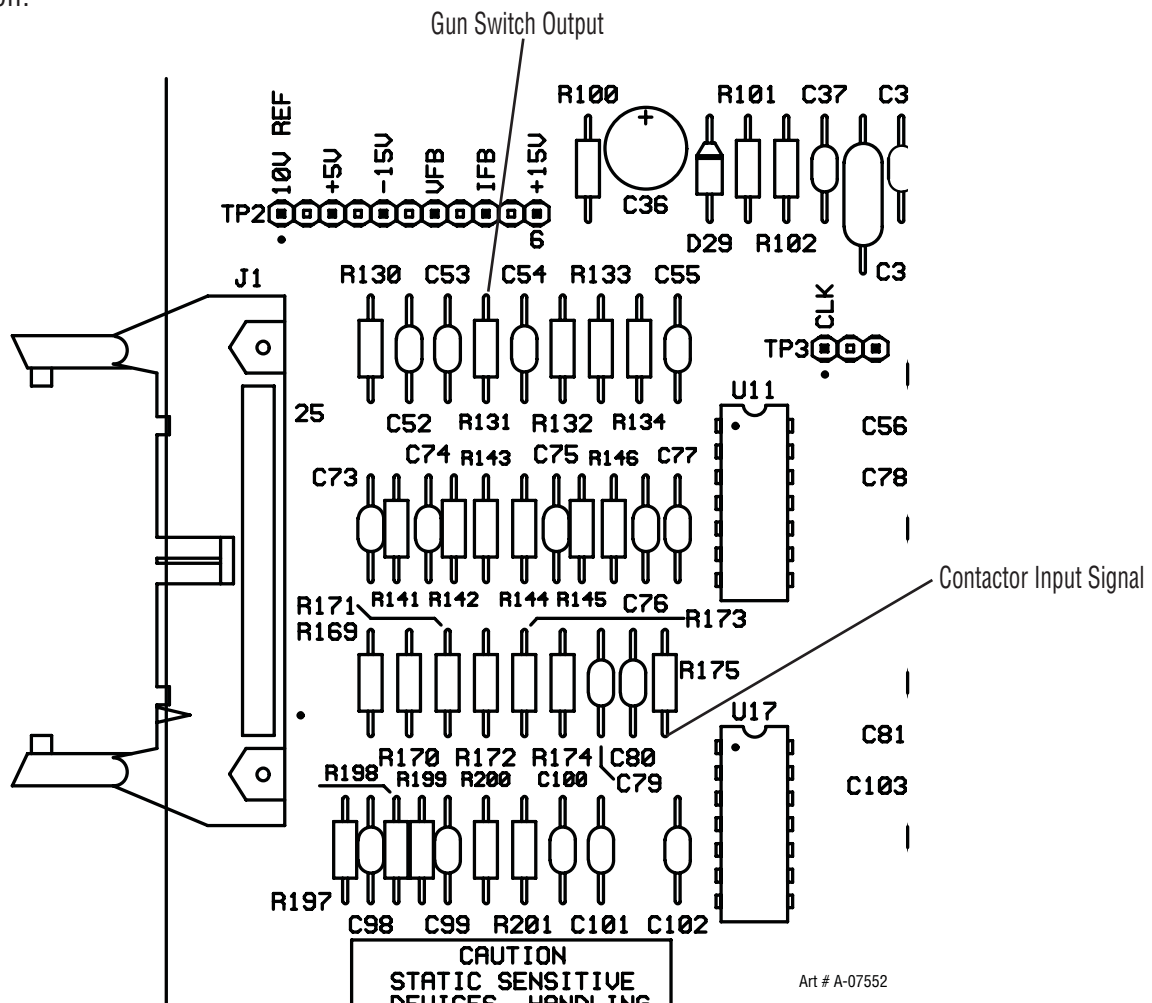

Figure 6-8
- B. Gun switch output R131: +15VDC for gun switch on, 0V for gun switch off. (See Figure 6-8)
- A. With gun switch on (jumper A-B on 19 pin remote), R175 is 13.6 VDC, with gun switch off, R175 is 0VDC. (See Figure 6-8)